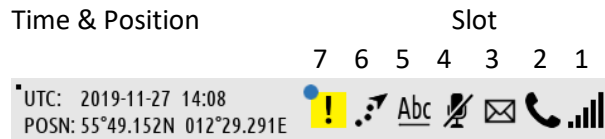

Figure 37: LT-3110 Control Unit - UI (status bar)
**NOTE:** The status bar contains a flashing square in the upper left corner to verify that the display never freezes, see Figure 37 on page 40. The flashing square is always visible on the display.